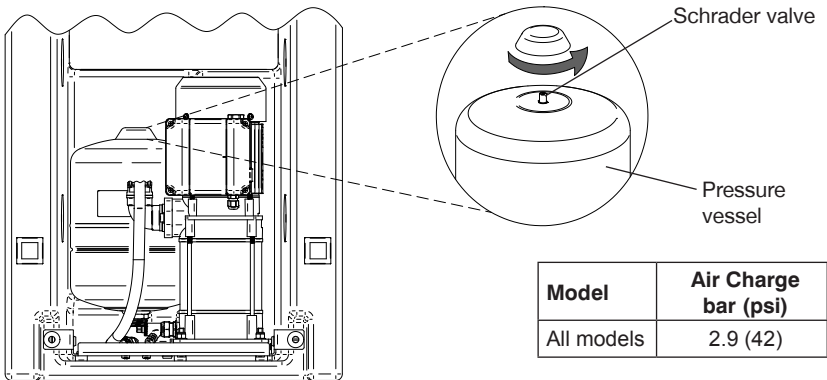

Fig. 14
- Check air charge at Schrader valve (Fig. 14) using a tyre pressure gauge.
- Replenish air charge by injecting air into the vessel via the Schrader valve using a car or bicycle pump (Fig. 14).